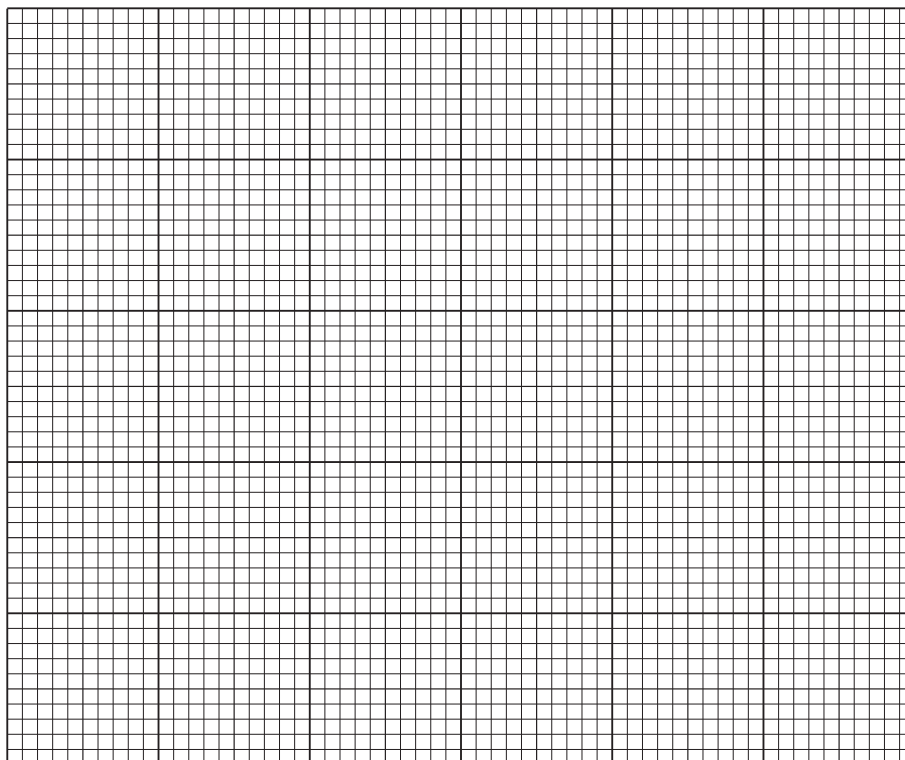

Fig. 1.3
- (ii) Plot a bar chart on the grid in Fig. 1.3 to show the concentration of caffeine (processed results) in the different types of drink shown in Table 1.2.